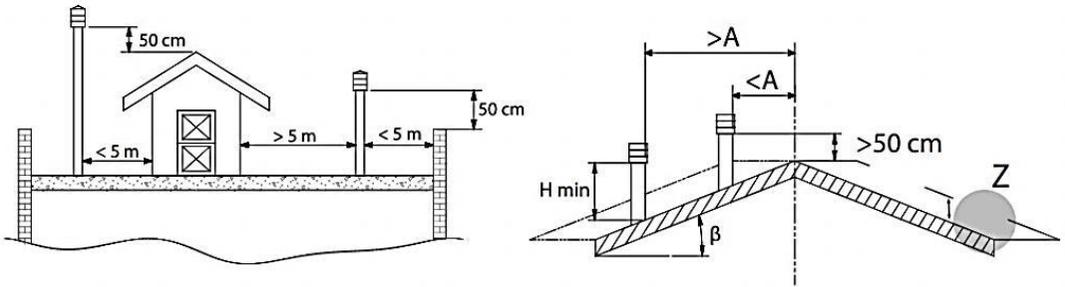

Figure 2
- installed to **enable proper dispersion and dilution of combustion products outside the reflux zone** (backflow) because the counter pressure occurs here. Therefore, it is necessary to adhere to limitations listed in *Figure 2*,